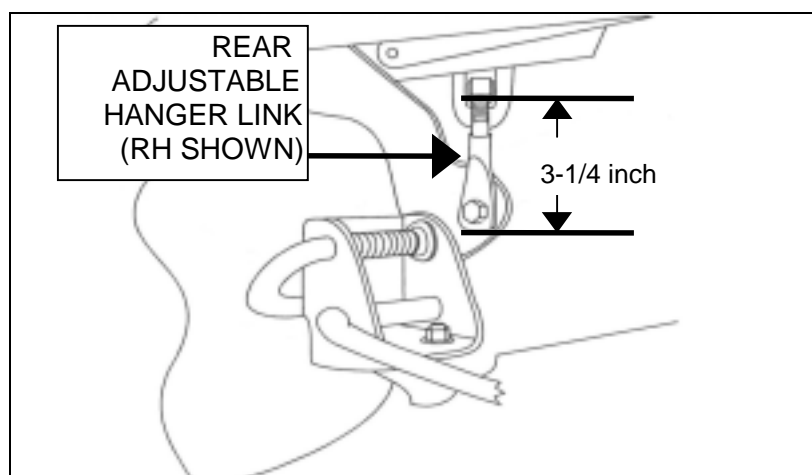

FIGURE 3
7. Adjust the LH and RH rear adjustable hanger links to a starting length of 3-1/4 inch. Refer to figure 3.